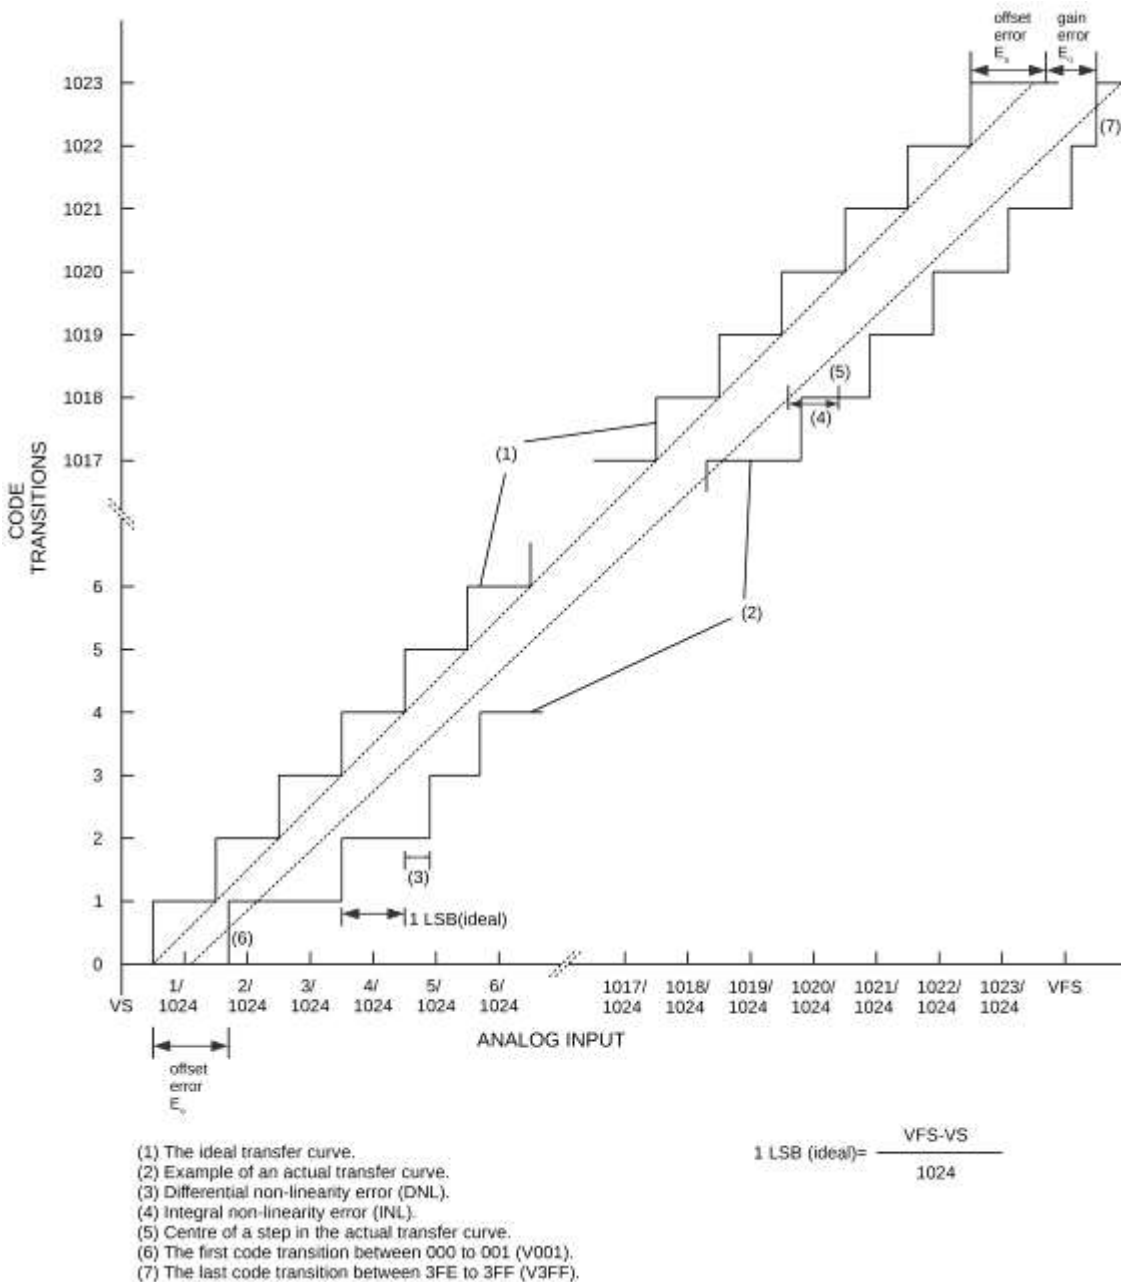

Figure 5-1 ADC Characteristics
1. The Integral non-linearity error (INL). The maximum deviation between any actual centre of the steps and the actual straight-line transfer curve. See Figure 5-1.
2. The Differential non-linearity error (DNL). The different between the actual step width and the ideal step width. See Figure 5-1.
3. The Offset error (E_o).The difference between first transition code and the ideal one. See Figure 5-1.
4. The Gain error (E_G). $E_G(\%) = \left[\frac{V_{3FF}-V_{001}}{V_{FS}-2LSB} - 1 \right] * 100$. See Figure 5-1.